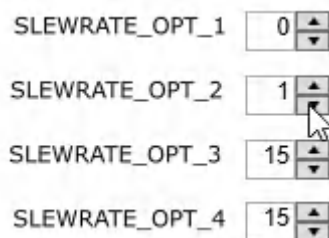

Figure 4-4. SLEWRATE_OPT# Assignment Example in TICS Pro
- a. For example, if you wanted the two fastest slew rates and the slowest slew rate, assign 0x0, 0x1, and 0xF to registers SLEWRATE_OPT#. SLEWRATE_OPT1 = 0x0 (fastest), SLEWRATE_OPT2 = 0x1 (second fastest), SLEWRATE_OPT3 = 0xF (slowest), and SLEWRATE_OPT4 = 0xF (slowest) as shown in Figure 4-4.